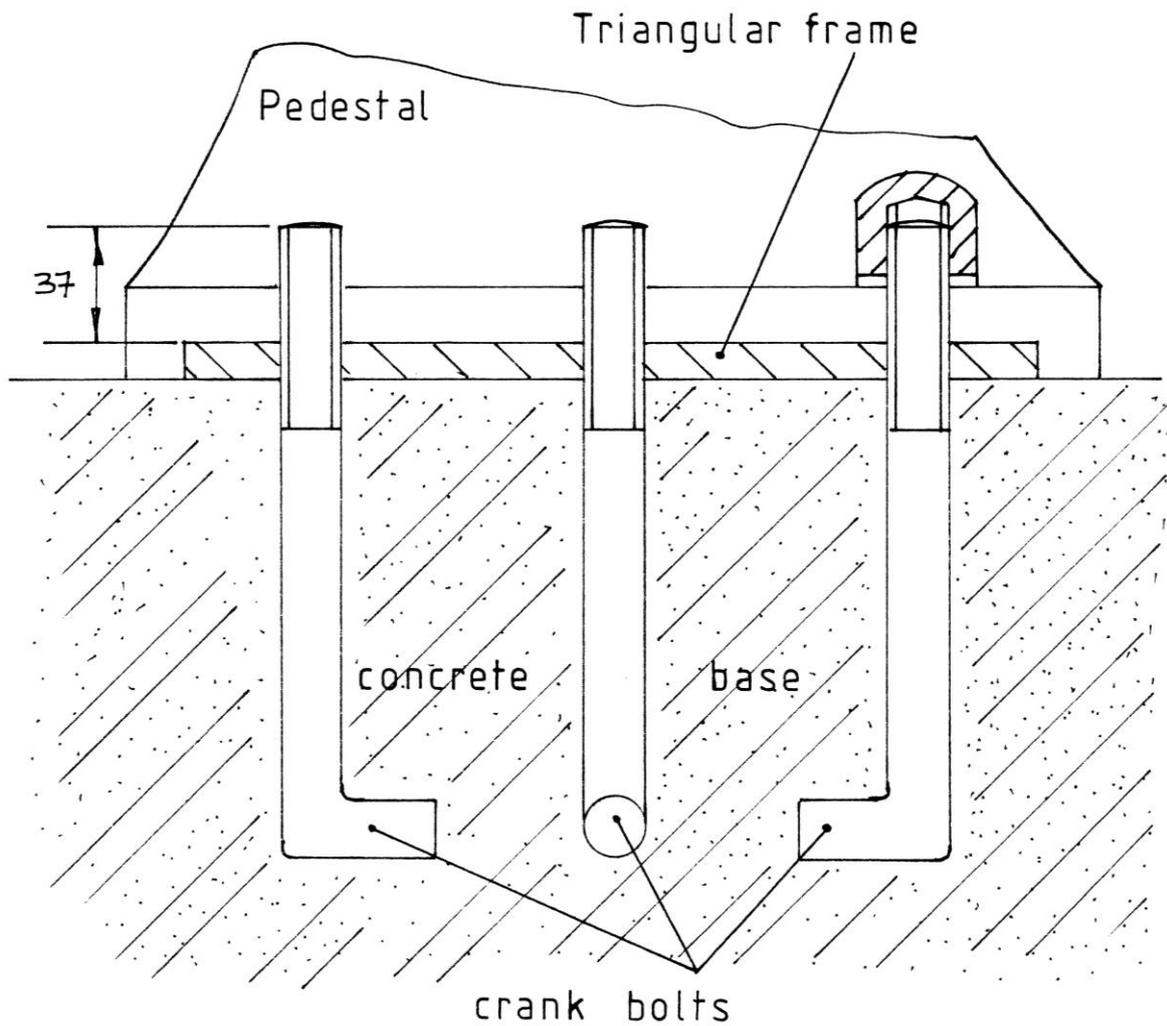

Figure 1. Concrete base fixing showing crank bolts and triangular frame.
1. Select the position of the lantern and prepare the fixings for the base. It is recommended that a concrete fixing is made using the bolts and frame provided. See Figure 1.